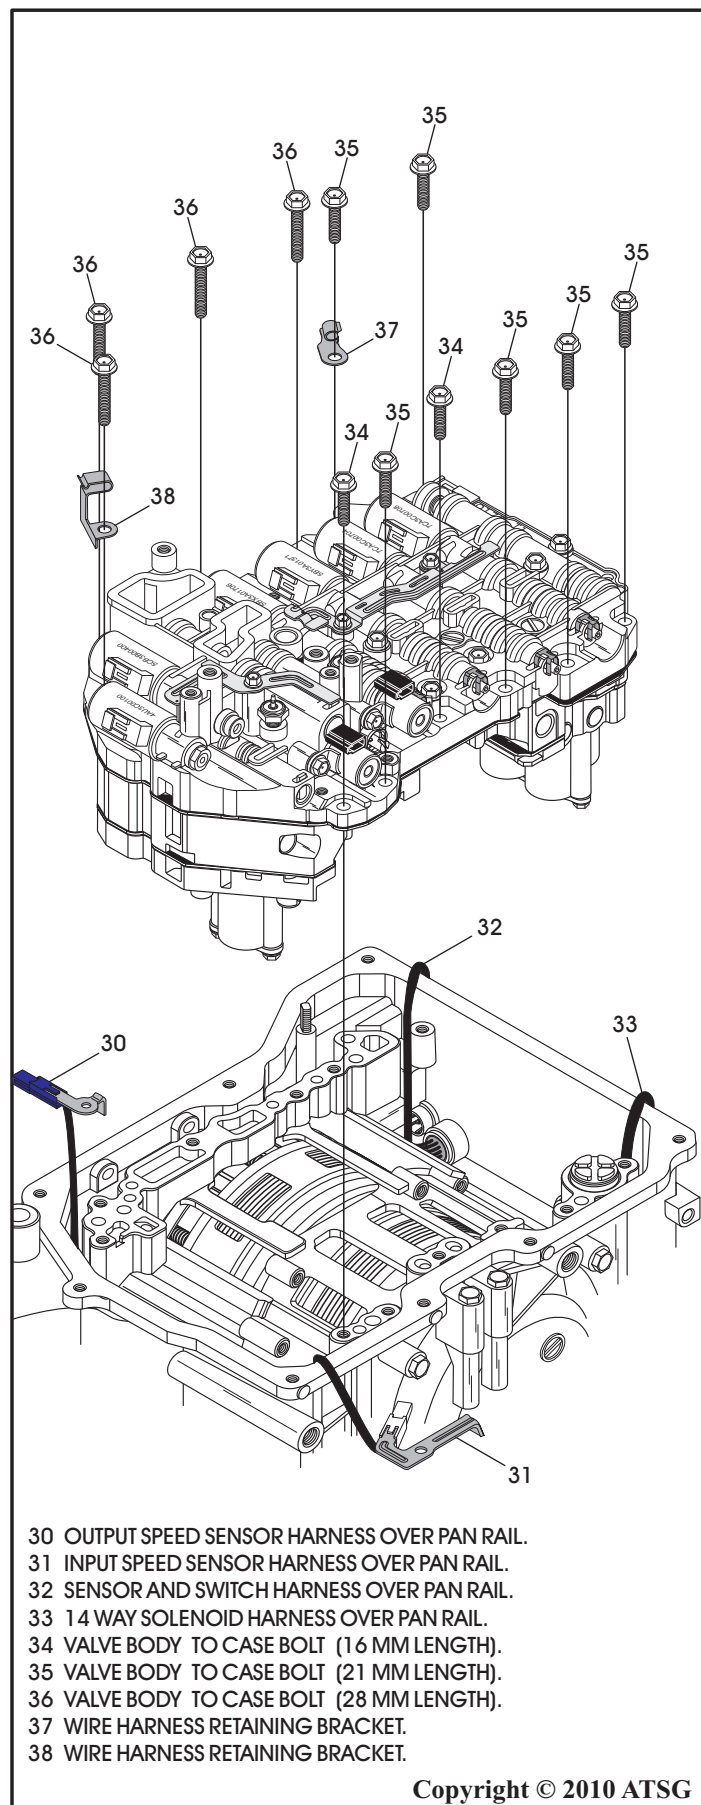

Figure 60
23. Remove the wire harness retaining brackets, as shown in Figure 60.
24. Remove the valve body assembly, as shown in Figure 60.